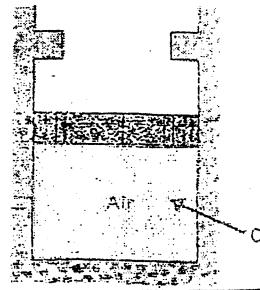

Figure P.9
9. Air (2 kg) is contained in a vertical frictionless piston-cylinder device shown in Figure P.9. The mass of the piston is such that the air has a pressure and temperature of 10.0 MPa and 75.5°C . There is a heat transfer to the cylinder until the piston reaches some stops, at which point the total volume is 0.04 m^3 . There is an additional heat transfer to the air until the pressure is 15.0 MPa. Determine the total heat transfer and the total work, and show the process on P-v and T-v diagrams. [$R = 287 \text{ J/kg.K}$, $c_v = 718 \text{ J/kg.K}$] [10]